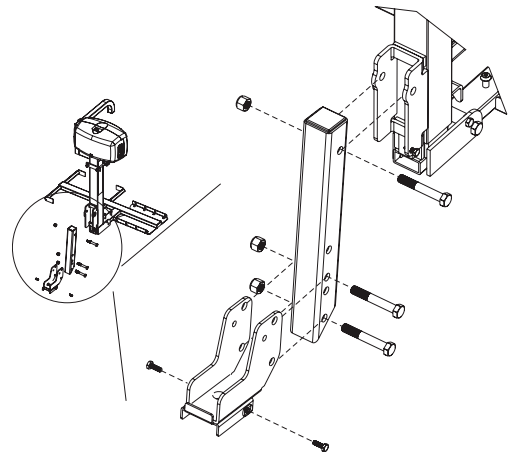

Figure 4-18
2. Install hitch post assembly. *See Figure 4-18.*